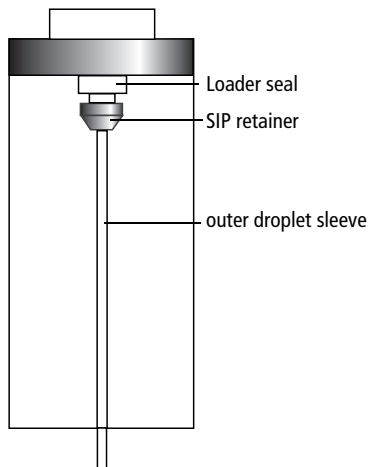

Figure 5-5 SIP components
- 3** Remove the outer droplet sleeve from the sample injection tube by turning the SIP retainer counterclockwise (Figure 5-5).